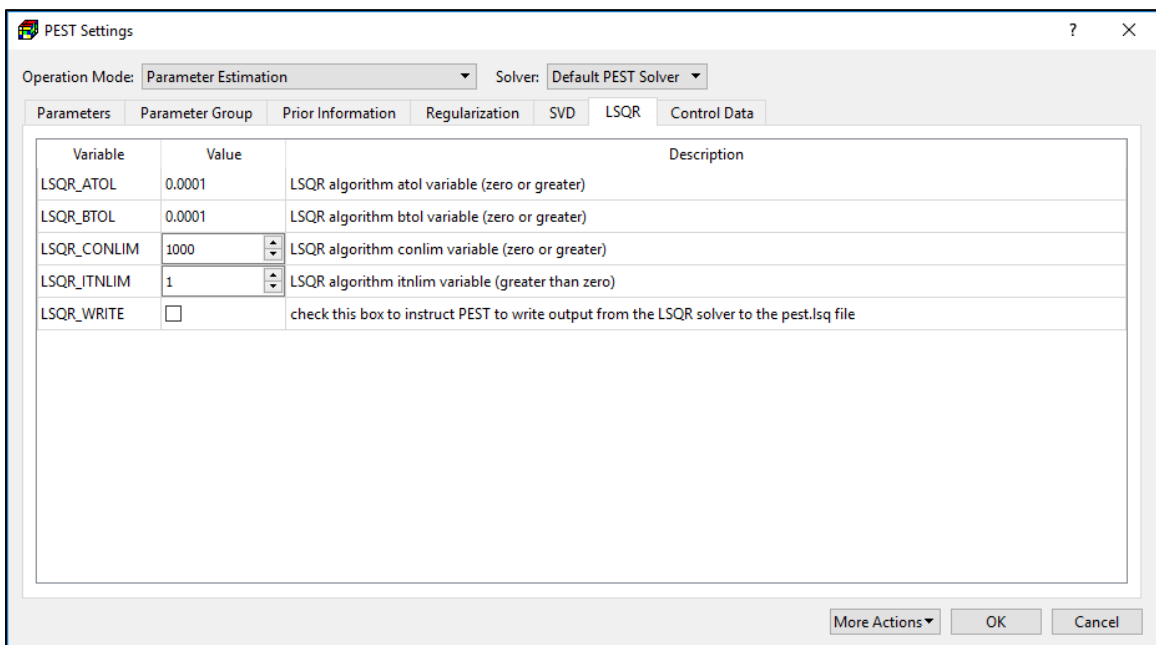

Figure 113. The LSQR tab of the PEST Settings dialog box
9. **LSQR Tab** (Figure 113): The variables of this tab are used only if the Solver is LSQR.